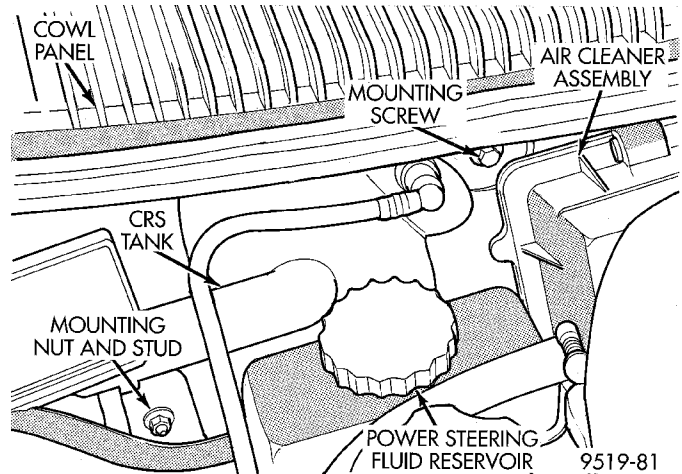

Fig. 32 CRS Tank Mounting Bolt And Screw
(5) Remove the nut and screw attaching the CRS tank to the dash panel (Fig. 32). Remove the CRS tank from the dash panel and lower it down on top of the steering gear toward the center of the vehicle.
(3) Install engine coolant recovery system tank on dash panel of vehicle. Install and securely tighten attaching bolts (Fig. 32).